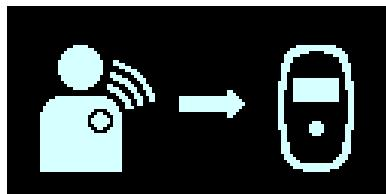

Figure 13: IPG Data Download Screen
4. The charging process begins by displaying the IPG Data Download screen as your Guardio Charger downloads information from your OPTIMIZER Smart Mini IPG. The animated arrow pointing to the charger icon indicates that your Charger is actively downloading information from your implanted device. **See Figure 13.**